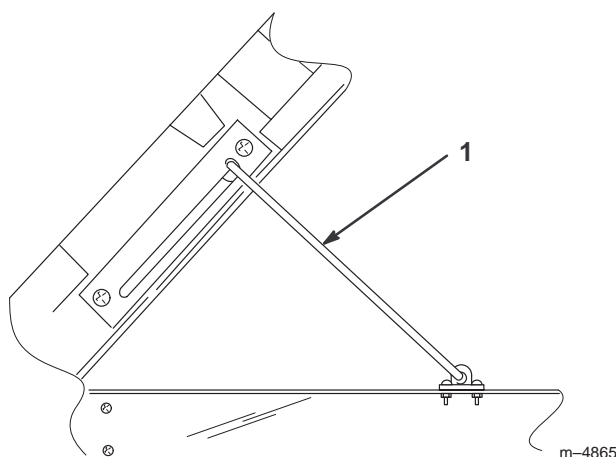

Figure 10
3. Raise the bed to its full height; then lower it slightly to engage the prop rod (Fig. 10).